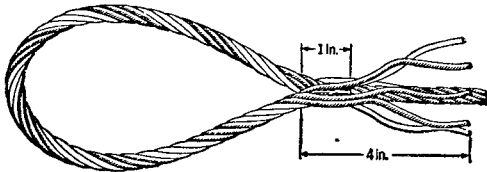

Fig. 5
**5.04** Tail strands of 4 inches or more are required to develop the full strength of the eye. Mark the strands at a point at least 4 inches from the crotch of the eye and cut off the excess. If core-type rope, cut the core out about 1 inch below the crotch of the eye. Separate the tail strands and distribute them equidistantly around the rope as shown in Fig. 5.